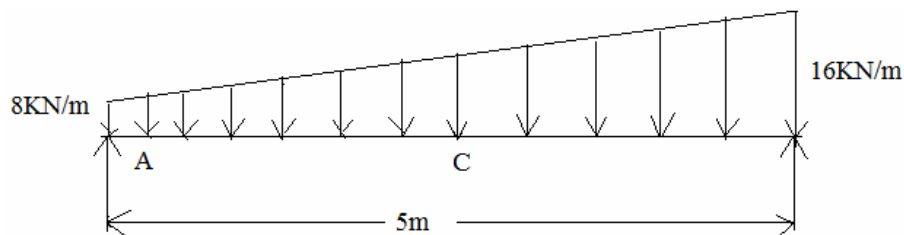

Fig.1
2. The intensity of loading on a simply supported beam of 5.0m span increases uniformly from 8KN/m at one end to 16KN/m at the other end as shown in Fig.1. Find the position and magnitude of the maximum bending moment. Also draw S.F.D and B.M.D. [15]